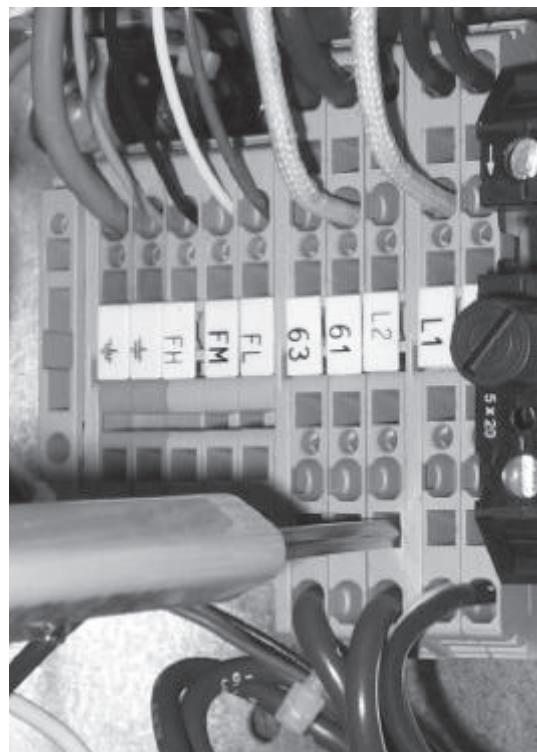

Fig. 30 — Terminal Strip
1. Push a small flat-head screwdriver into the square hole on the terminal. Press firmly until the screwdriver hits the back stop and opens the terminal (see Fig. 30).